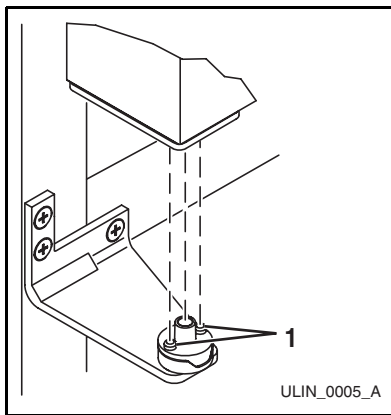
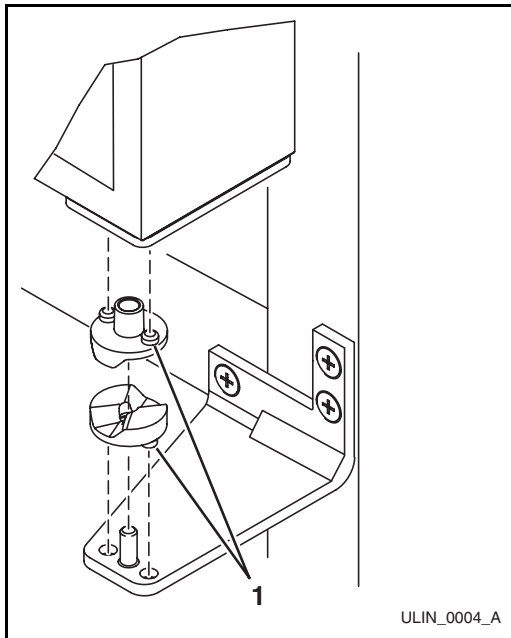

Figure 25
Figure 26
4. Install the removed top hinge mount on opposite side **BOTTOM (Figure 25)**.
5. Remove the two door closer inserts **(Figure 26, 1)** from the existing bottom hinge and install as shown on the new bottom hinge **(Figure 25, 1)**.
9. Holding door upright with top of door tilted forward, place hole of door pivot plate on bottom hinge screw pin/closer inserts **(Figure 25, 1)**.